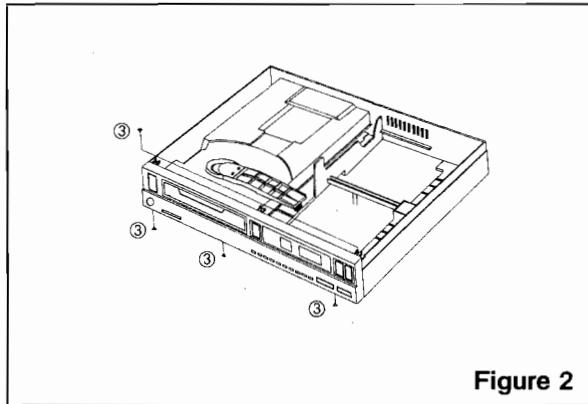

Figure 2
2. To Remove the Front Panel (Figure 2)